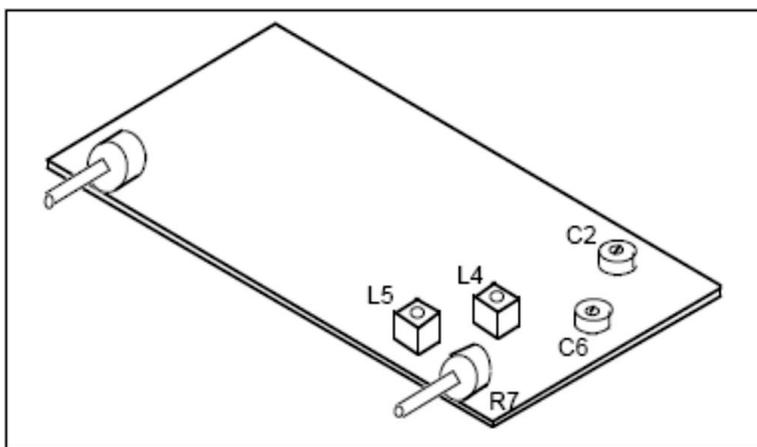

Figure 17. Locations of the variable capacitors and inductors
4.  Set the TUNING control to the 20.0 MHz position. *Carefully* adjust inductor L5 (Figure 17) with the plastic tuning stick (hexagonal tip) until a loud low frequency tone is heard (set volume control as desired). Tune the slug about 3.5 turns clockwise to hear the tone. (Hint - Put a tape “flag” or a mark on the tuning stick to help count turns). We have observed that in some receivers as the slug in L5 is turned there are a couple settings that produce very weak tones and one much louder tone. It’s the loudest one that you are looking for. The loudest tone will be